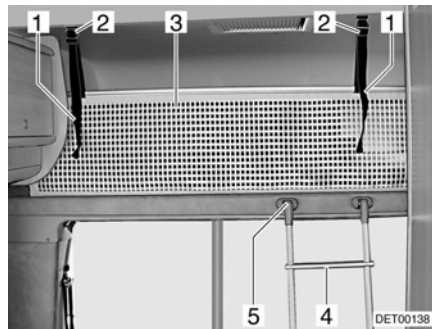

Fig. 50 Overcab bed
Always use the access ladder (Fig. 50,4) provided as standard to access the overcab bed.
- Attach the ladder with the rails to the holder (Fig. 50,5) on the alcove panel.
The safety net (Fig. 50,3) is stored as standard between the mattress and slatted frame. Only use the safety net if persons are already in the alcove.
- Fasten the retaining straps (Fig. 50,1) to the holders on the ceiling (Fig. 50,2).